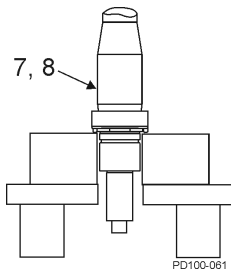

Figure 45 - Grease Shaft
1. Lubricate the front bearing area of the shaft (Figure 45, item 7, 8) with oil or grease. Place it upright in a hydraulic press with the liquid end down.